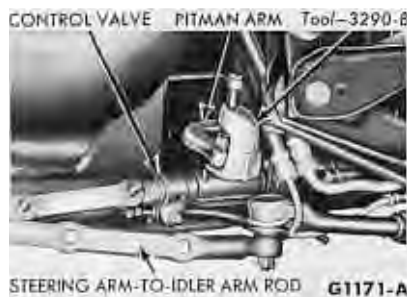

FIG. 7—Disconnecting Control Valve from Pitman Arm—Typical
5. Disconnect the control valve from the Pitman arm as shown in Fig. 7.